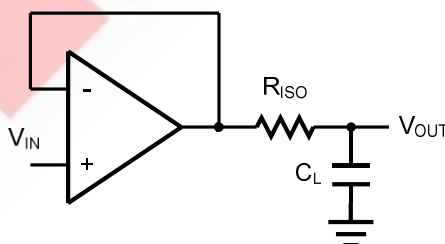
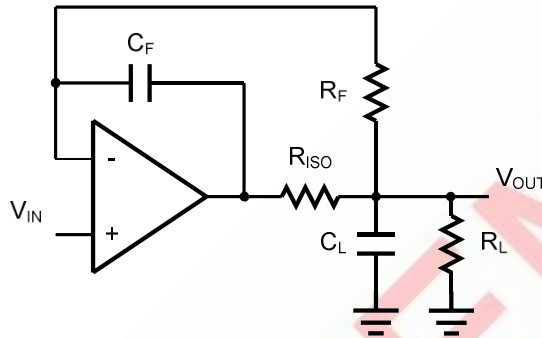

Figure 2. Indirectly Driving a Capacities Load Using Isolation Resistor
Figure 3. Indirectly Driving a Capacities Load with DC Accuracy
The HGV855x family is optimized for bandwidth and speed, not for driving capacitive loads. Output capacitance will create a pole in the amplifier's feedback path, leading to excessive peaking and potential oscillation. If dealing with load capacitance is a requirement of the application, the two strategies to consider are (1) using a small resistor in series with the amplifier's output and the load capacitance and (2) reducing the bandwidth of the amplifier's feedback loop by increasing the overall noise gain. Figure 2. shows a unity gain follower using the series resistor strategy. The resistor isolates the output from the capacitance and, more importantly, creates a zero in the feedback path that compensates for the pole created by the output capacitance.
The circuit in Figure 3 is an improvement to the one in Figure 2. RF provides the DC accuracy by feed-forward the VIN to RL. CF and RISO serve to counteract the loss of phase margin by feeding the high frequency component of the output signal back to the amplifier's inverting input, thereby preserving the phase margin in the overall feedback loop.